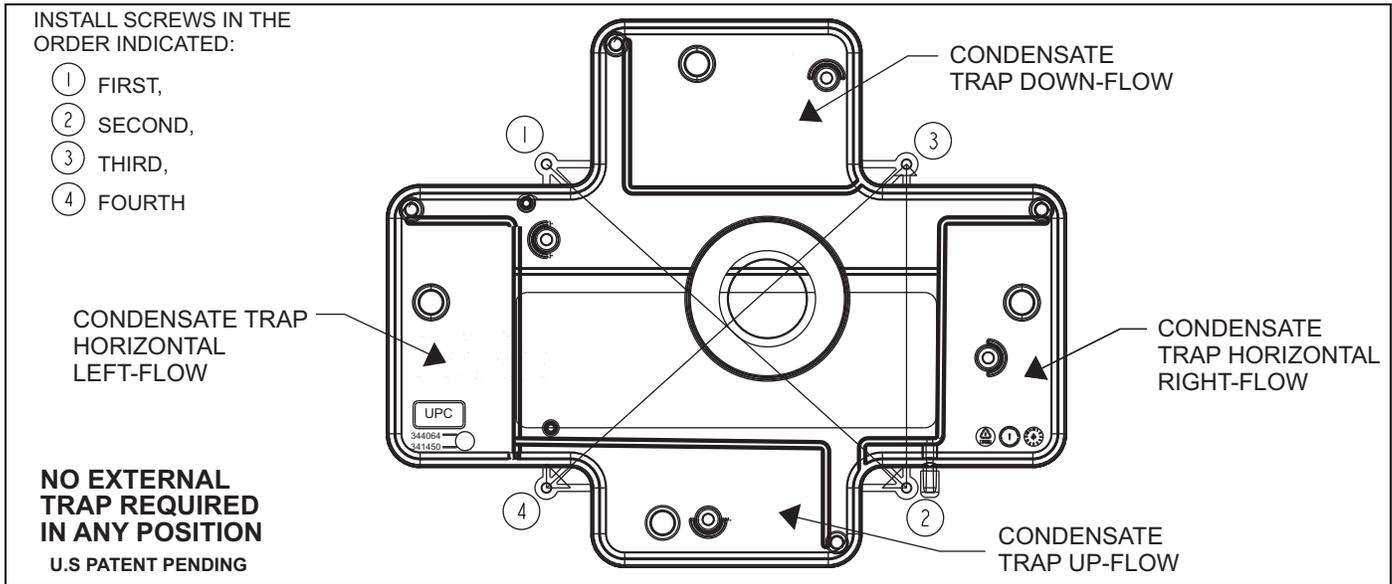

FIGURE 1
11. Install the new condensate pan and secure it to the vestibule panel following the procedure outlined in Figure 1 on back page. Also, follow the guidelines mentioned in step #4, step #5 and step #6. The condensate pan must be sealed tightly against the furnace. All stripped screws must be replaced with larger #10 screws (field provided).